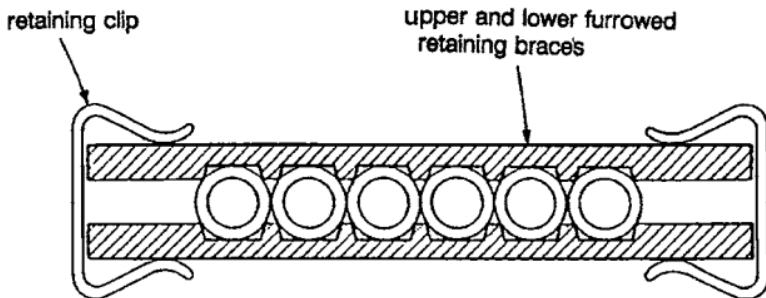

FIGURE 11-13. Multi-cable retaining assembly. This is a 6-fiber conductor assembly.
**Fiber-Optic Connectors.** Fiber-optic connectors are important inasmuch as they serve as a means of splicing the fiber and causing it to continue the light beam with minimum of light (signal) loss. See Figure 11-10. Properly treated fiber ends are essential to a good installation. Figure 11-11 shows how the connectors are treated and how the fiber is polished with the proper equipment. Figure 11-12 shows some of the various alignments that produce losses, and Figure 11-13 illustrates the splicing of six individual fibers.